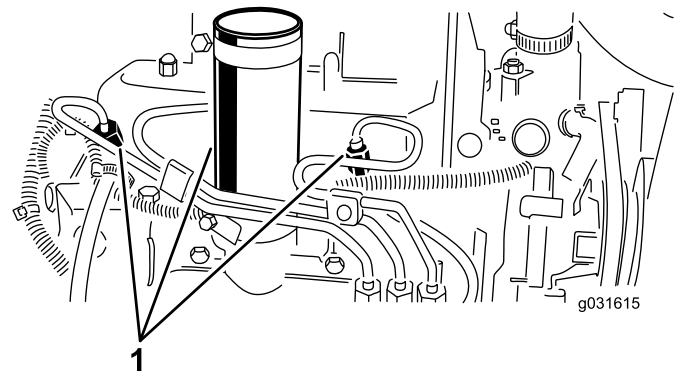

Figure 53
1. Loosen the pipe connection to the No. 1 nozzle and holder assembly (Figure 53).